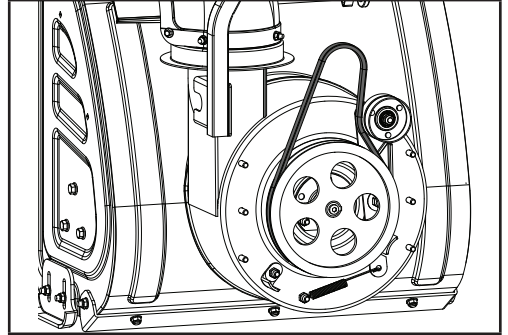

Figure 42
8. Slip the drive belt off the pulley. Remove and replace the belt in reverse order ensuring that the new belt is below the spring loaded idler pulley (Fig. 42).